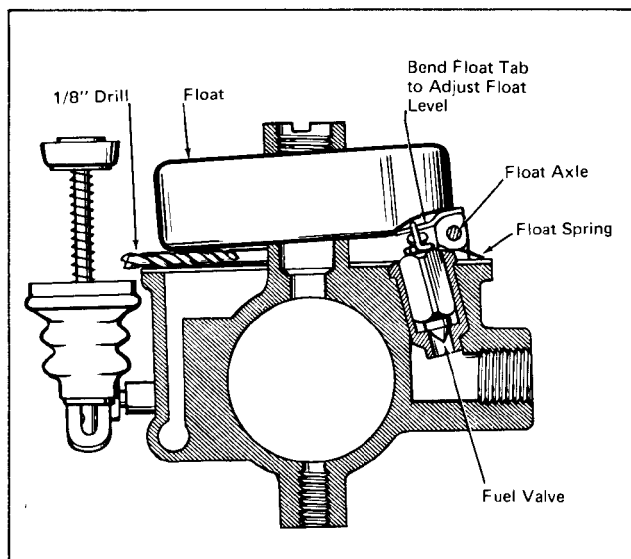

Figure 3-70.
9. Insert fuel valve assembly (14) in fuel valve seat. Assemble float spring (13) and float (12) and install float pin (11). Be sure that fuel valve clip is attached to the float tab. If necessary, bend clip to provide minimum clearance with tab (approximately .010 in.)
10. With the carburetor inverted (inlet needle seated), bottom surface of float should be $\frac{3}{16}$ " from gasket surface at point opposite hinge. A $\frac{3}{16}$ " drill can be used as a gage as shown in Figure 3-70. If adjustment is required, use long nosed pliers to bend the tab that contacts the fuel valve. Be careful to avoid damage to the fuel valve or seat.
11. Install throttle stop screw (18) and spring (19). Adjust screw to open throttle slightly but not far enough to uncover the No. 2 idle discharge hole.
12. Install idle mixture needle (16) and spring (17). Screw needle IN until it seats lightly against the No. 1 idle discharge hole, then back it out 1-1/2 turns as a preliminary idle adjustment.
1. Carefully guide cup of accelerating pump (19) into pump well. Seat accelerating pump boot around top of accelerating pump boss.
2. Assemble washer (17) on main jet and discharge tube (18) and assemble O-ring (16) in groove near end of discharge tube.
3. Hold carburetor inverted (with float up) and rotate the long end of the spring upward so that it is against the float. Carefully position the fuel bowl on the throttle body releasing the float spring so that the long end of the spring presses against the side of the bowl (Refer to Figure 3-70). Be sure that the accelerating jet fits properly in the hole in the throttle body.
4. Assemble main jet and tube (6) through hole in bottom of bowl and into throttle body boss.
5. Assemble gasket (5) on idle tube (4) and insert tube in throttle body. Carefully guide tube through bore and into discharge tube on opposite side of venturi. Tighten idle tube and main jet.
6. Attach accelerating pump lever (2) on top of accelerating pump. Other end of lever goes on rectangular end of throttle shaft. Install pump lever screw (1) in end of throttle shaft.